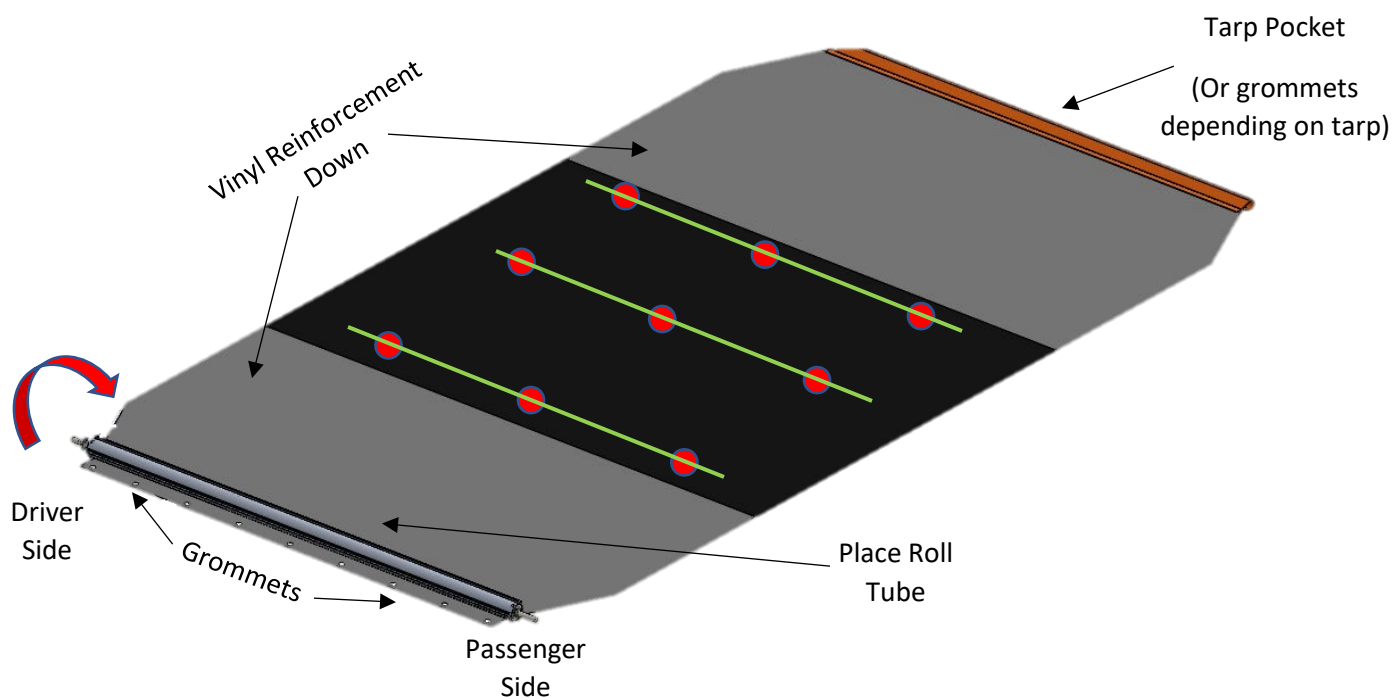

Figure 1 – Tarp/Roll Tube Orientation
5. Roll Tarp onto tube according to arrow in Figure 1. Leave 6-8" of tarp unraveled.